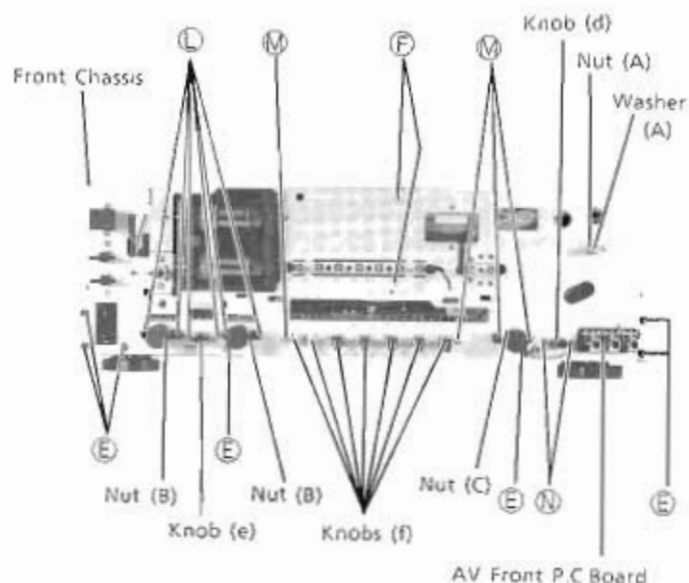

Figure 6
- (1) After removal of Front Escutcheon, remove seven screws marked "E" as shown in Figure 6.
(2) Remove Front Chassis upward and then proceed to items 7-1~7-10.
- (1) Remove two screws marked "D" as shown in Figure 6.
(2) Disconnect all wires from the Driver P. C. Board.
- Remove one nut (A) and one washer (A) as shown in Figure 6.
- (1) Remove one knob (e) and six screws marked "①" as shown in Figure 6.
- (2) Remove two nuts (B) as shown in Figure 6
- (3) Disconnect all wires from the Tone Control P. C. Board.
- (2) Remove one nut (c) as shown in Figure 6
- (1) Remove one knob (d) and remove two screws marked "③" as shown in Figure 6.
- (2) Disconnect all wires from the AV Front P. C. Board.